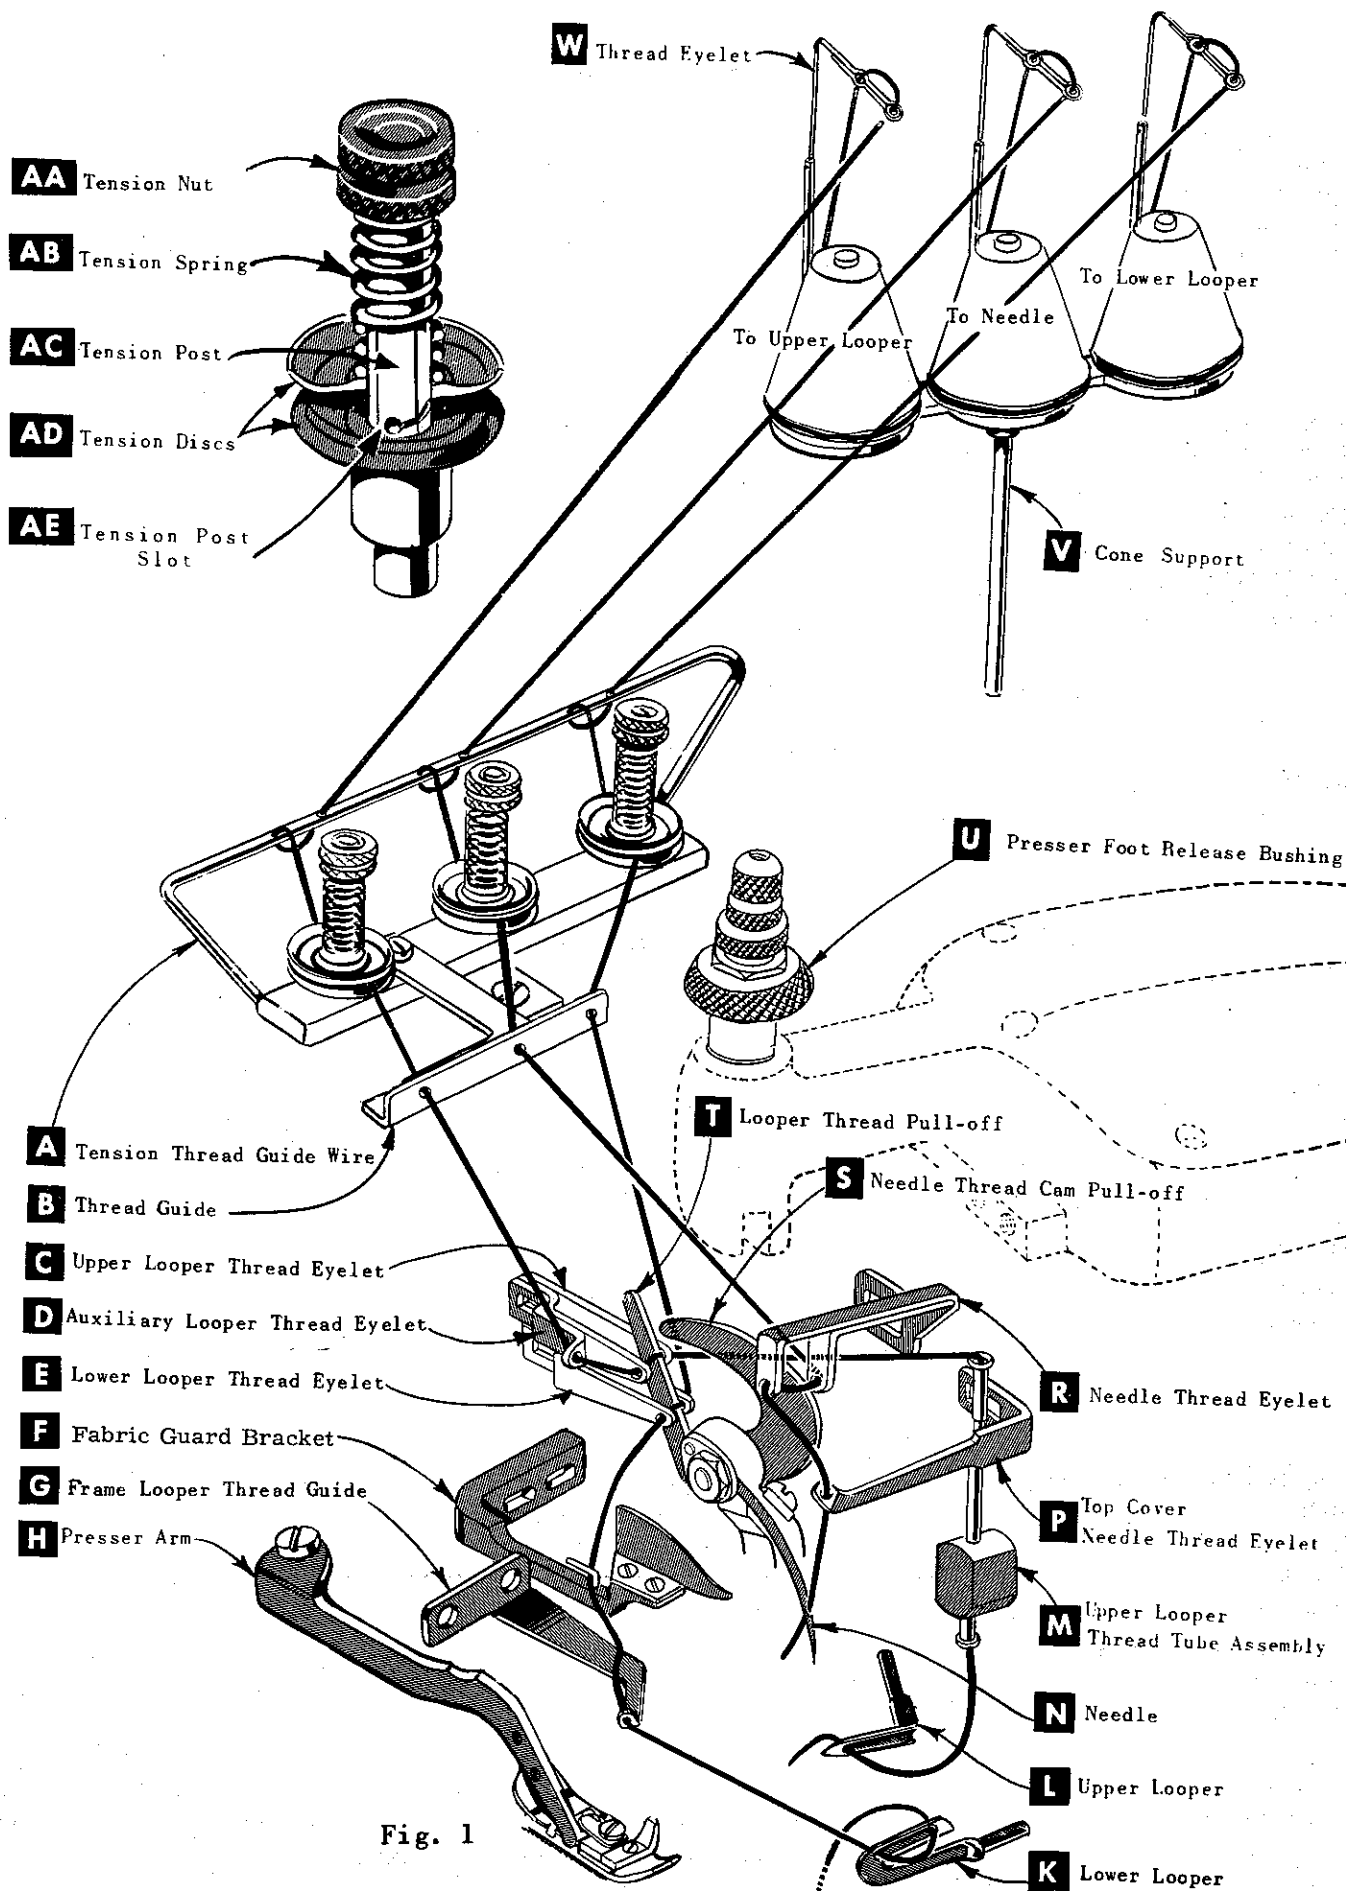

Fig. 1
Release pressure on presser foot by turning presser foot release bushing (U, Fig. 1) and swing presser arm (H) out of position. Turn handwheel in operating direction until needle is at its lowest point of travel. Using hexagonal socket wrench No. 21388 AS, furnished with machine, loosen needle clamp nut about 1/4 turn. Again turn handwheel until needle is at high position; withdraw needle.
After thread comes from cone on thread stand (V, Fig. 1), it is brought up through back thread eyelet, then down through front thread eyelet (W). Next it is threaded through each pair of holes in tension thread guide wire (A), down right hand hole and up through left hand hole. Then thread continues between tension discs (AD), through slot (AE), and on through thread guide (B).
Only parts involved in threading are shown in threading diagram (Fig. 1). Parts are placed in their relative positions for clarity.
Double end of thread and lead it through both eyes of lower looper thread eyelet (E, Fig. 1) from right to left. Note thread must pass in front of looper thread pull-off (T). Lead thread behind fabric guard (F) and through both holes of frame looper thread guide (G). Turn handwheel in operating direction until heel of lower looper (K) is all the way to the left; then thread through both eyes from left to right. Left eye of lower looper can be threaded easily if tweezers are in left hand.
Turn handwheel in operating direction until needle (N, Fig. 1) is at its highest position. Insert needle thread from right to left, through both eyes of needle thread eyelet (R), under neck of top cover casting; then down through hole in top cover needle thread eyelet (P). Thread needle from front.
The amount of tension on needle and looper threads is regulated by three knurled tension nuts (AA, Fig. 1). Tension on threads should be only enough to secure proper stitch formation.
Be sure machine is threaded according to threading diagram (Fig. 1, page 7). With thread tensions light, set looper thread eyelets (C & E) about horizontal and in the middle of their front to back locations. Operate machine slowly, without presser foot in place, to make sure that chain forms and moves off the tongue freely. Swing presser foot into position; insert material; and sew slowly.
While sewing on material, check needle thread control as follows: Usually all needle thread is drawn on needle down stroke. At top of needle stroke, thread should be just tight enough to feed chain off stitch tongue. Stitch tends to pull down slightly if excessive thread is pulled on the up stroke. With needle at bottom of stroke, position needle thread eyelet (R, Fig. 1) so that needle thread cam pull-off (S) just contacts needle thread.
With material under presser foot, set lower looper thread eyelet (E, Fig. 1) back far enough so thread is a little slack when looper thread pull-off (T) reaches its most rearward position. Looper thread pull-off (T) is set about 1/8 inch distance behind needle thread cam pull-off (S). Frame looper thread guide (G) should be set with its left hand eyelet approximately 1/8 inch right of lower looper (K) heel eyelet at the time lower looper is at extreme left end of its travel.
Before proceeding to adjust upper looper thread eyelet (C, Fig. 1) balance all three tensions to give a normal appearing stitch. Moderate change in these tensions will not markedly effect the purl.
To move the purl more under the edge, both looper thread eyelets (C & E, Fig. 1) should be raised keeping the same amount of pull-off. Usually it is better to have slightly more pull-off on upper thread than on lower thread.